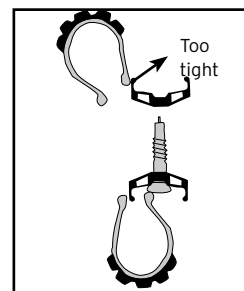

Fig. 42
5. Lay one tire bead into the center of the rim well. Start opposite the valve to give the tire beads the maximum slack. If you start at the valve, the bead will lie on top of the valve. With the bead on top of the valve, some slack will be taken up which is needed to lift the tire bead over the rim shoulder (Fig. 42). Before proceeding to #6, move this first bead out of the rim well to make room for the second bead.